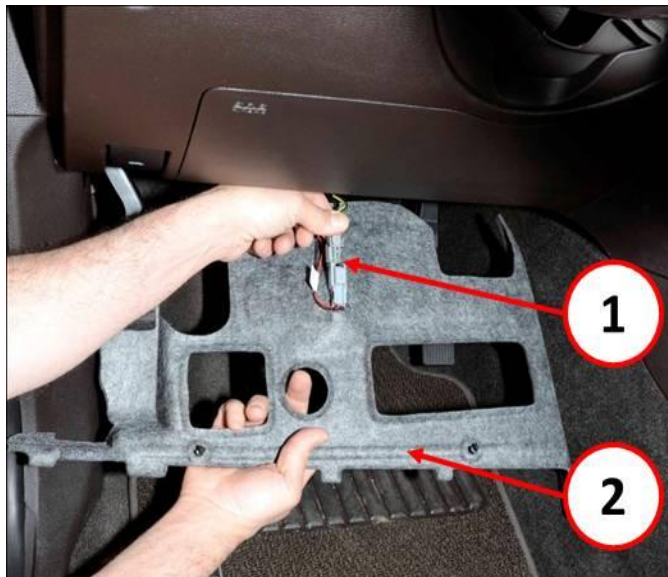

Fig. 2 Left Instrument Panel Closeout
2. Disconnect the courtesy lamp electrical harness (1) from the driver side instrument panel closeout (2) (Fig. 2).
3. Remove the driver side instrument panel closeout (2) from the vehicle (Fig. 2).
6. Connect the courtesy lamp electrical harness (1) to the driver side instrument panel closeout (2) (Fig. 2).
7. Install the driver side instrument panel closeout (2) to the vehicle (Fig. 2).